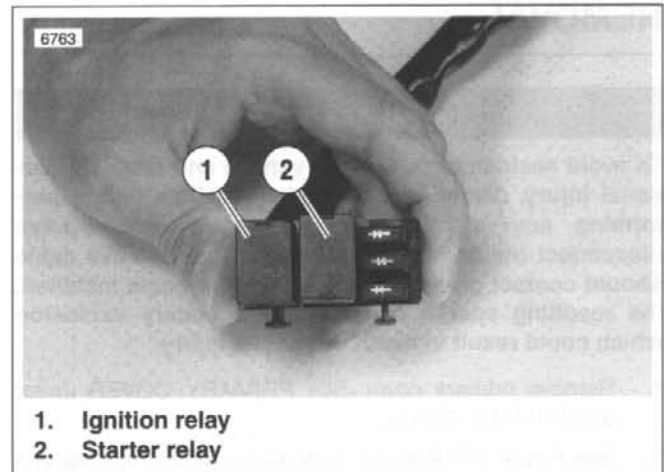

Figure 5-6. Starter Relay Block
1. See Figure 5-6. Locate starter relay. The relay is attached to the relay block underneath the seat.